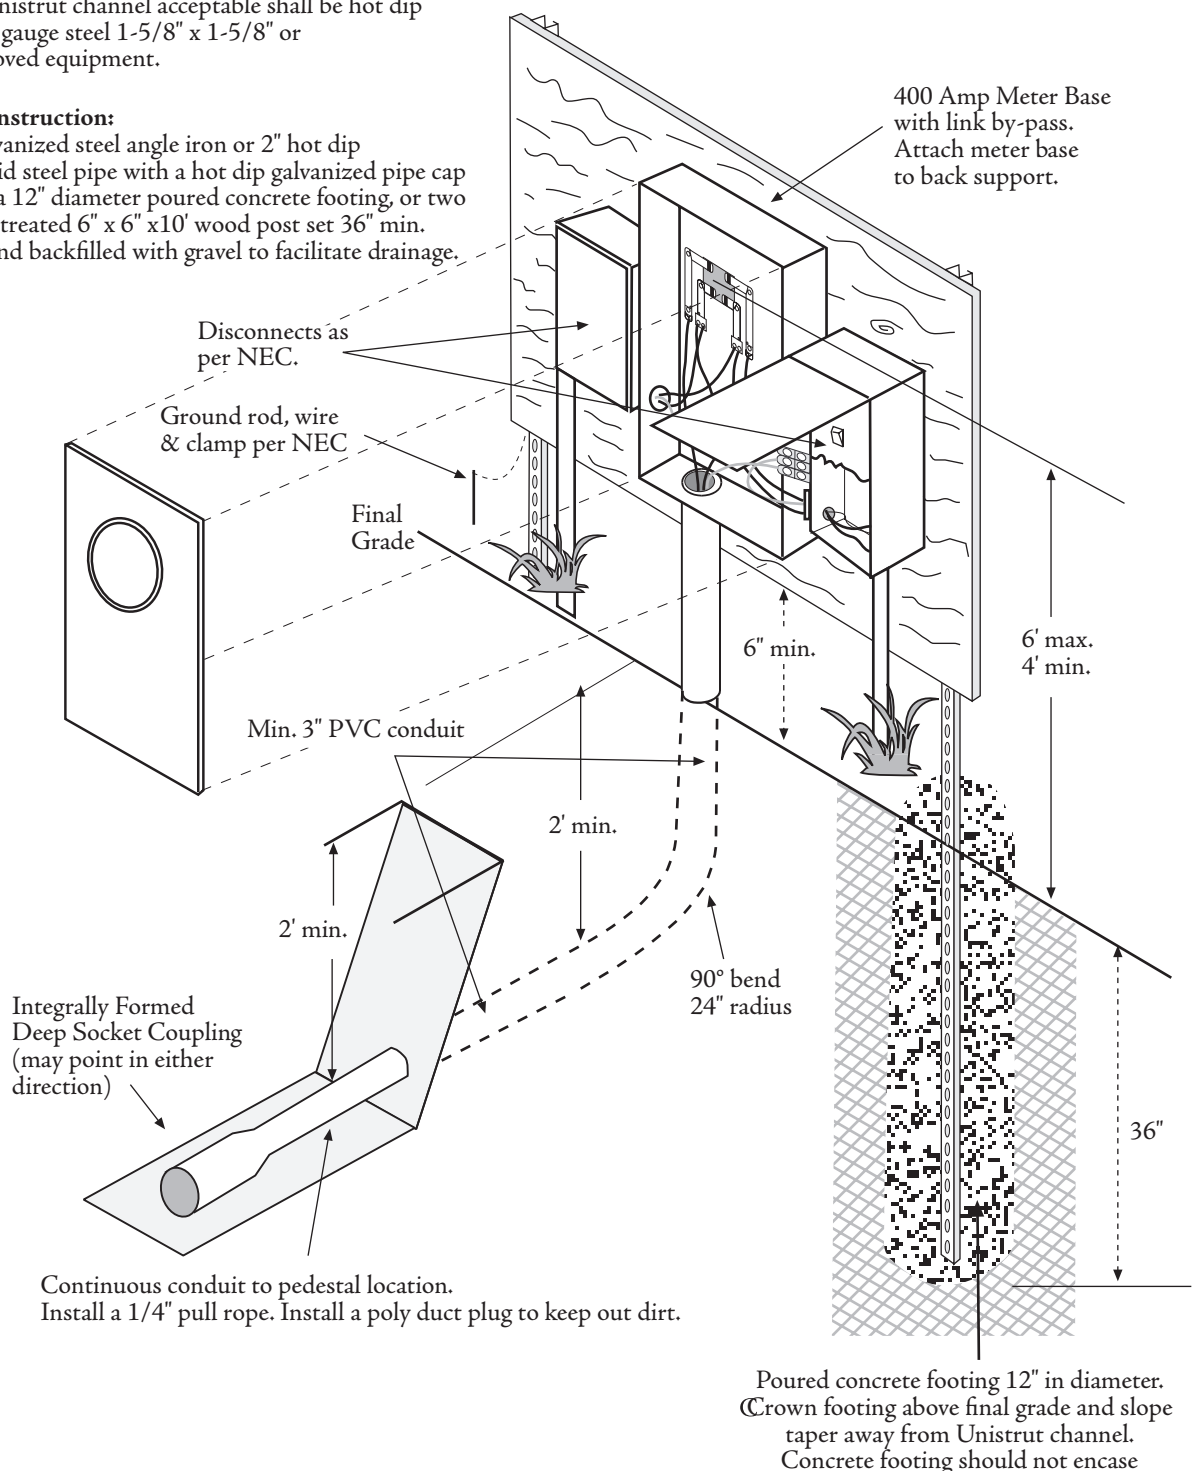

Figure 4-10: Typical Meter Pedestal for a 201-400 Amp Current Transformer Enclosure Installation, Riser 3" Minimum
1. An on-the-job assembled meter pedestal, which is composed of listed or approved meter socket and conduit or raceways, must be supported by one of several methods. The preferred installation is by using two pieces of Unistrut channel embedded in a 12" diameter poured concrete footing 36" deep. Minimum Unistrut channel acceptable shall be hot dip galvanized 12 gauge steel 1 $\frac{5}{8}$ " x 1 $\frac{5}{8}$ ", or PUD-approved equivalent. Also acceptable is using two pieces of 2" hot dip galvanized steel angle iron or 2" hot dip galvanized rigid steel pipe with a 2" hot dip galvanized steel cap embedded in a 12" diameter poured concrete footing 36" deep. If needed, a minimum of $\frac{3}{4}$ " exterior grade plywood backing should be attached between the footings to support the equipment. The customer shall install the poured concrete footing, backfill and compact prior to inspection and service installation. The concrete footing should not encase the service riser conduits. Alternately, the PUD will accept a fully pressure treated 6" x 6" x 10' wood post set a minimum of 36" deep; however, it is the least desired method since it may not last as long as the other methods. *The wood post shall not be encased in concrete, but shall be backfilled with gravel to facilitate drainage. Refer to Fig. 4-8, Exhibit C; Fig. 4-9 and Fig. 4-10.*